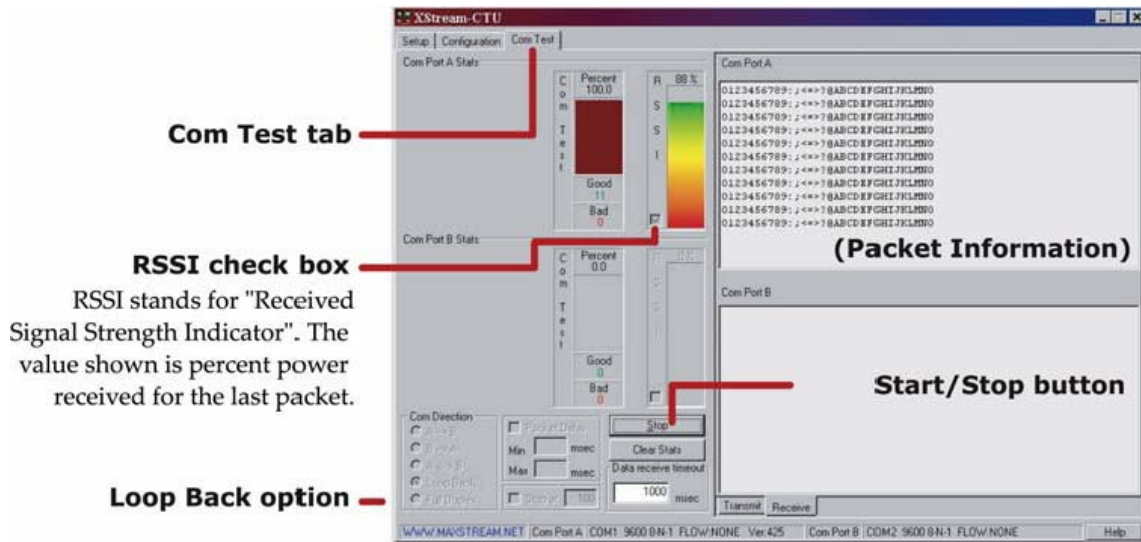

Figure 32: Communication test of RF telemetry link.
4. Check the box in the "RSSI" section to enable its display (Figure 32).
5. Choose the "Loop Back" option in the "Com Direction" section (Figure 32).
6. Click the "Start" button to begin the range test (Figure 32).